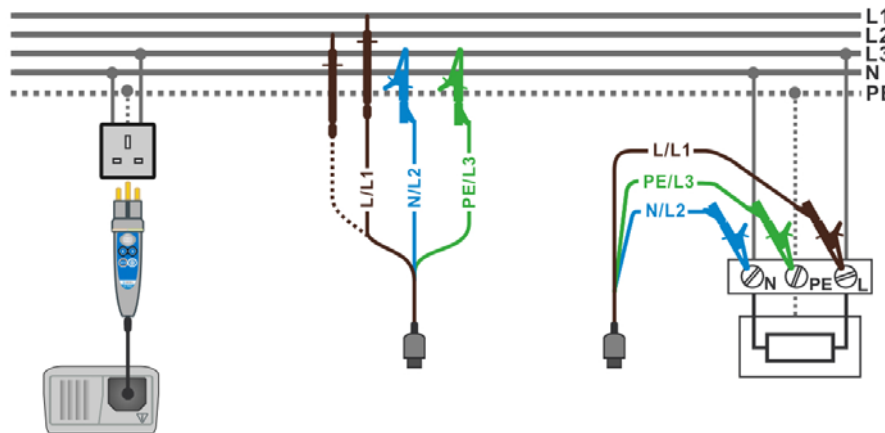

Figure 5.33: Phase-neutral or phase-phase line impedance measurement – connection of plug cable or commander and 3-wire test lead
- ❑ **Connect** test leads to the item to be tested (see figure 5.33).